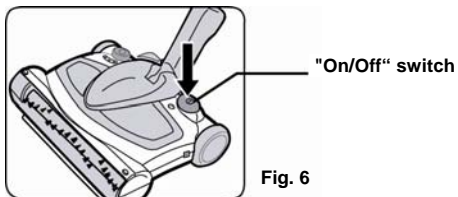

Fig. 6
- Push the On/Off switch to operate the unit. To turn off, press switch again. (Fig. 6)